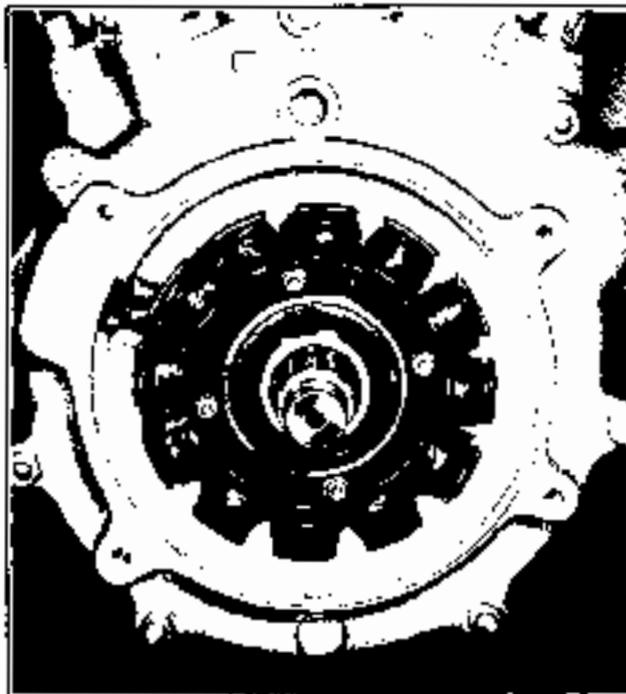

Figure 5-8. Stator Coils of the Alternator Mounted to Crankcase
The synchro alternator consists of two main components: the rotor (magnetic field) which is mounted on the engine sprocket shaft, and the stator (armature) which is bolted to the engine crankcase. See figure 5-8.
The stator consists of twelve (12) coils, each wound over a laminated iron core. The coils are positioned radially around the engine crankshaft and bolted to the outside of the engine crankcase. See Figure 5-8.
OPERATION (See Figure 5-8).